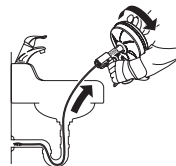
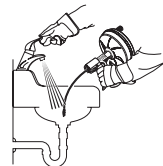

Figure 7
Figure 8
4. Retract cable (Figure 7). After flow is established, if possible run water to clear debris and clean cable (Figure 8).